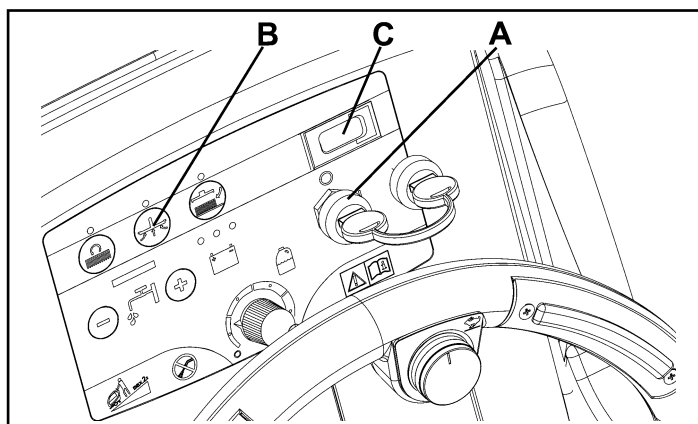

Figure 41
1. Turn the ignition key (A, Fig. 41) to "I".
2. Press the switch (B) and read on the hour meter (C) the total number of working hours (scrubbing/drying) performed by the machine.
3. Press the switch (B) again.
4. Turn the ignition key (A) to "0".